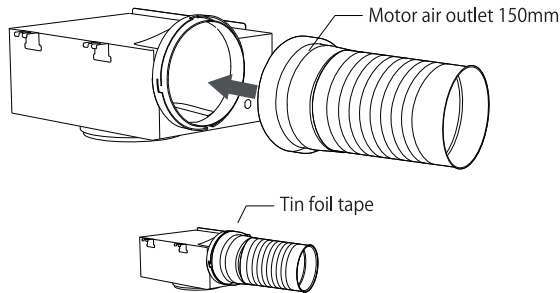

Fig.3
- Insert the 150mm air duct into the air outlet and fasten it with the 2 self-tapping screws ST4 ×12 provided. Then seal it with the aluminum foil tape provided. The sealing must be firm to prevent air leakage. (As shown in Figure 3)